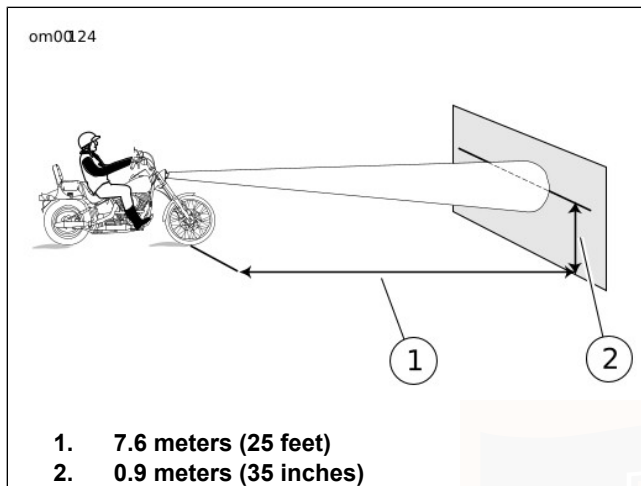

Figure 52. Headlamp Alignment: Sportster Models
3. See Figure 52. Position motorcycle 25 feet (7.62 meters) away a screen or wall. Measure distance from directly below front axle to base of screen/wall.